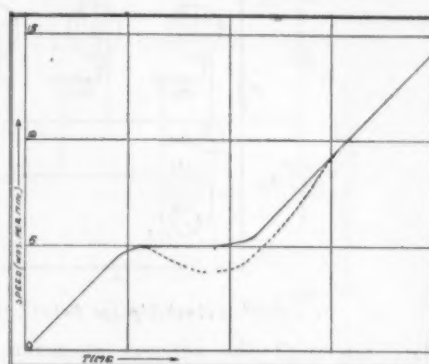

Fig. 1. Curve of Learning
we may tabulate statistical data on learning progress and attempt to draw conclusions from the graph resulting. Figure 1 is a fairly average portrayal of the analysis. We find the vertical axis scaled to represent the speed in words per minute, while the horizontal represents progressive time. A casual inspection of the curve will convince the reader of three outstanding facts, viz.: (1) In the earlier stages of code learning there is fairly even and rapid progress; (2) After reaching a speed of from four to six words per minute (depending upon the individual) there is a retardation of progress, or even a retrogression (dotted); (3) After some time the early progress is resumed. Now, if we are able to put special effort and increased care on the difficult stage (that noted under (2)), we may in a large measure make this stage at least shorter in duration.